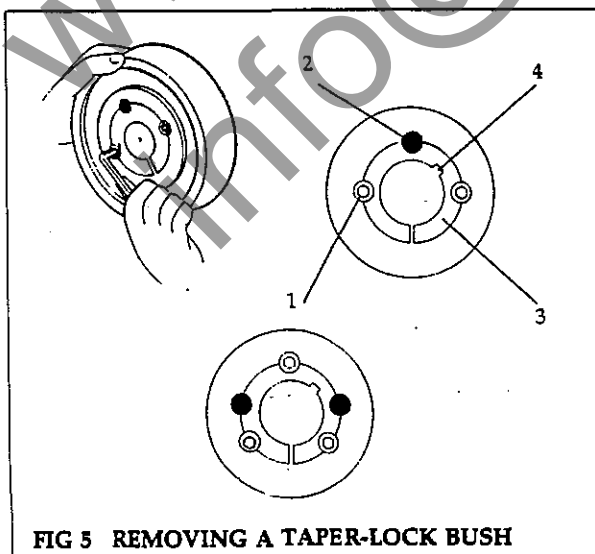

FIG 5 REMOVING A TAPER-LOCK BUSH
Removal and Refit Drive Pulleys (Fig 5)
- (1) Unscrew setscrews (1) and (7) and remove cover from drive.
- (2) Remove drive pulleys as items A, B and C above.
- (3) Unscrew hexagon head screws securing motor to bedplate and remove motor.
- (4) Remove intermediate drive as for Remove and Refit Drive Pulleys (Fig 5).